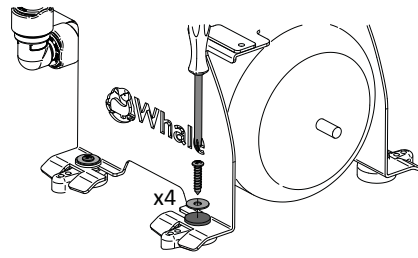
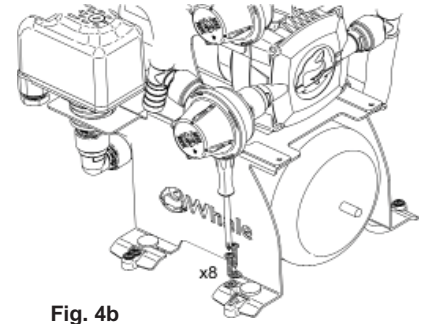

Fig. 4a
Fig. 4b
- Step 3** Use stainless steel screws and washers to secure the kit to a solid surface. Four screws and washers can be used through the centre of the feet (see Fig. 4a) or 8 screws and washers as shown in Fig 4b.
Figure 4a and 4b Securing Kit